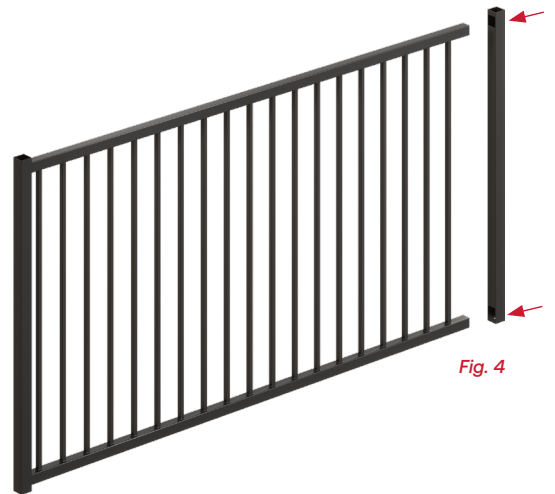

Fig. 4
3. Slot the stile back onto the rails. Do not fix the retaining clips at this stage. *Fig. 4*